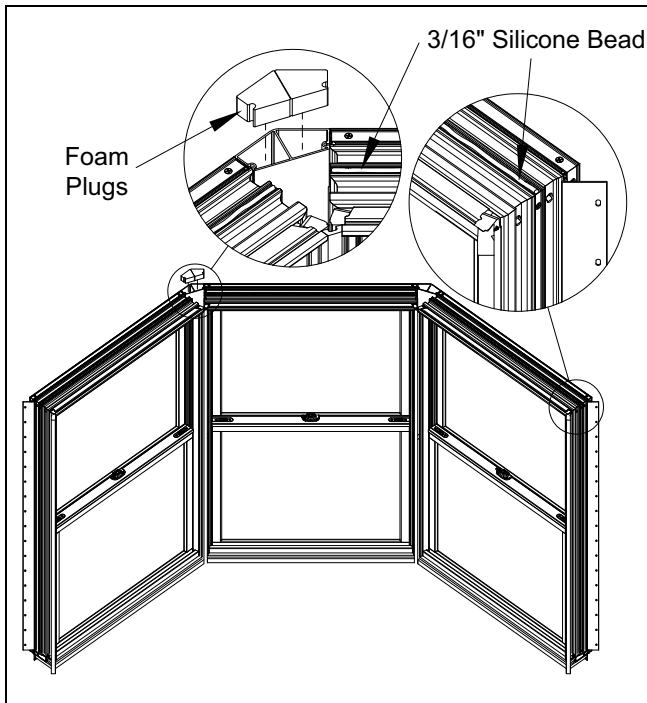

Figure 6
3. Apply 3/16" bead of caulk/adhesive on each head jamb of unit. See Figure 6.
6. Fill mullion cavities loosely with fiberglass insulation (do not over pack). See Figure 6.
7. Put a small amount of silicone sealer inside mull connector cavities where foam plugs are to be positioned to hold plugs in place. Insert mull connector foam plugs in mull connector blocks. Repeat at each mullion. Apply 3/16" (5) bead of caulk/adhesive 2 1/4" (57) in from exterior edge of unit sills. See Figure 6.